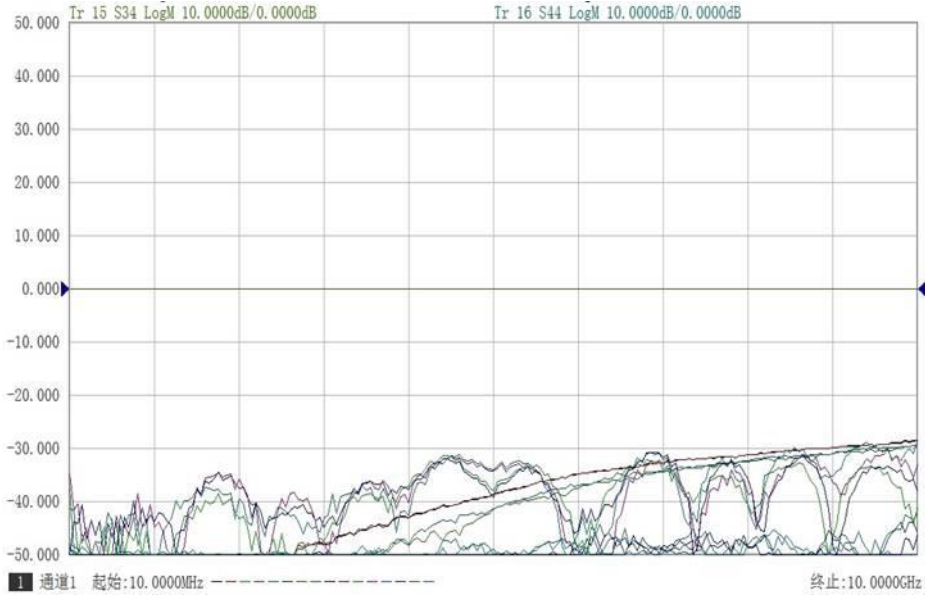

Figure 4.26 Results of equilibrium parameter extraction and four-port de-embedding
2) Equilibrium parameters are extracted by taking the DUT as a whole and performing de-embedding of the four ports. The test results are shown in Figure 4.26, and the transmission parameters are well removed, so as to remove the near-end crosstalk and far-end crosstalk.